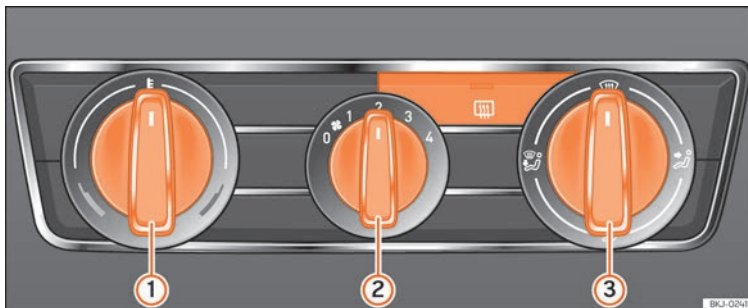

Fig. 170 Heating controls on the dash panel.
» Fig. 170 ① anti-clockwise.
- Turn blower switch ② to any of the levels 1-4.
- Set the airflow to the desired direction using air distribution control ③.
» Fig. 170 ① clockwise to select the required temperature.
» Fig. 170 ① clockwise to reach the maximum temperature.
- Turn the blower switch ② to level 4.
» Fig. 170 ① to the heating zone.
- Turn blower switch ② to any of the levels 2-3.